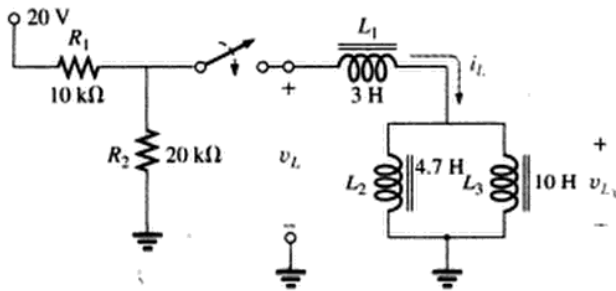

FIG. 11.107
*42. For the network in Fig. 11.107: